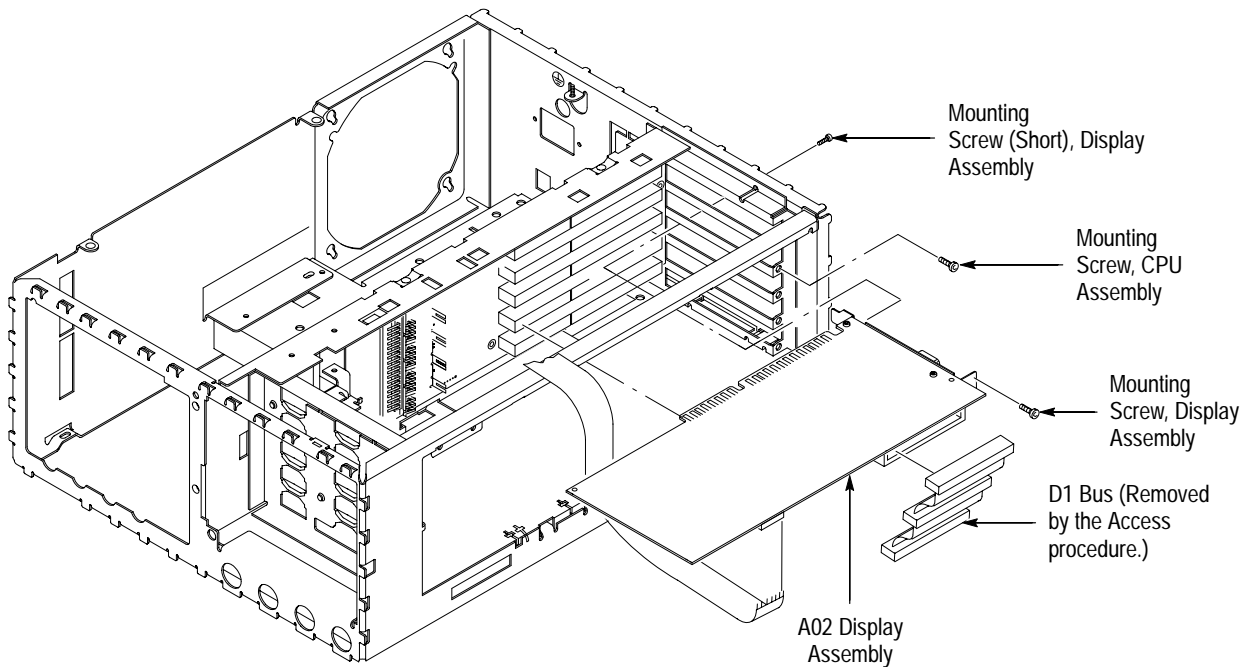

Figure 6–17: A02 Display Assembly Removal
- b. Locate the modules to be removed in the locator diagram *Internal Modules*, Figure 6–3 on page 6–19.
4. *Remove the DSP Assembly:* Use Figure 6–18 as a guide perform the following substeps: